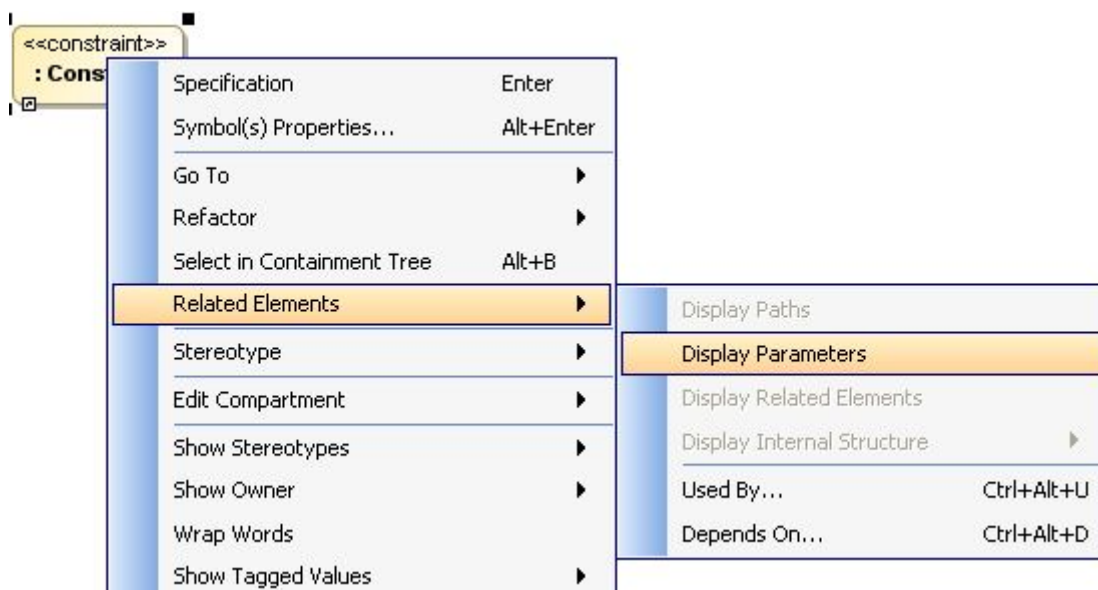
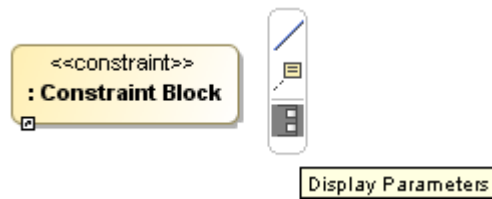

Figure 124 -- Shortcut Menu for Displaying Constraint Parameters
Figure 125 -- Smart Manipulator for Displaying Constraint Parameters
1. Either (i) select **Display Parameters** on the property shortcut menu (Figure 124) or (ii) click the **Display Parameters** icon on the property smart manipulator (Figure 125).